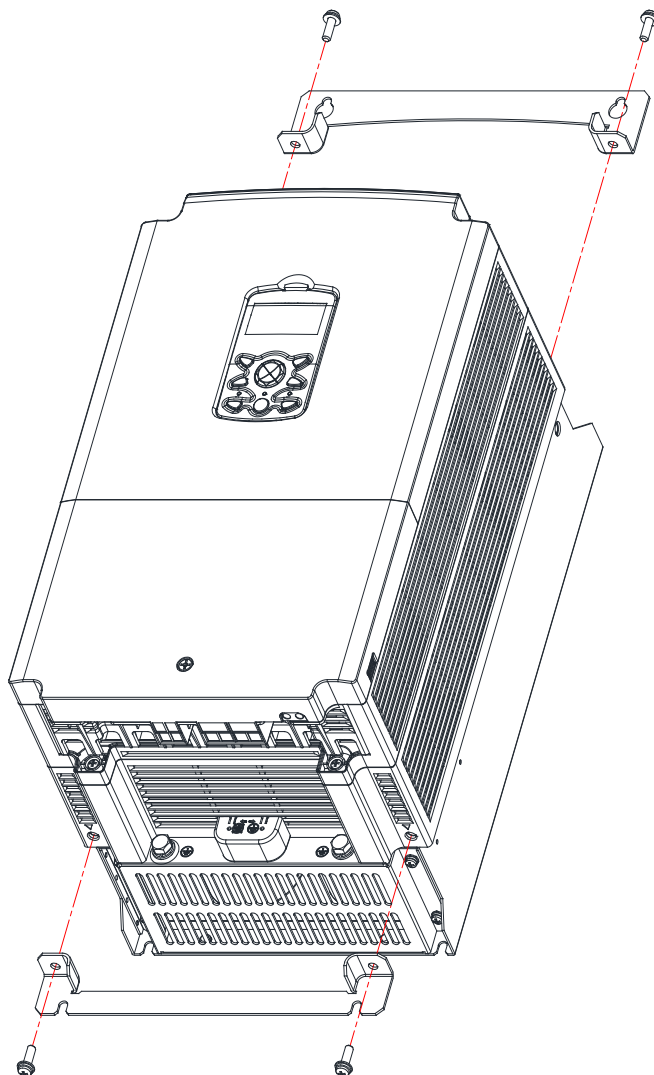

Figure 3. Install and Side Viewing
① Insert the Flange Option to fit on the product side Base fastening the top/bottom positions as shown in the figure 3.
② Using the included Bolt and tighten with the specified torque to prevent loose.